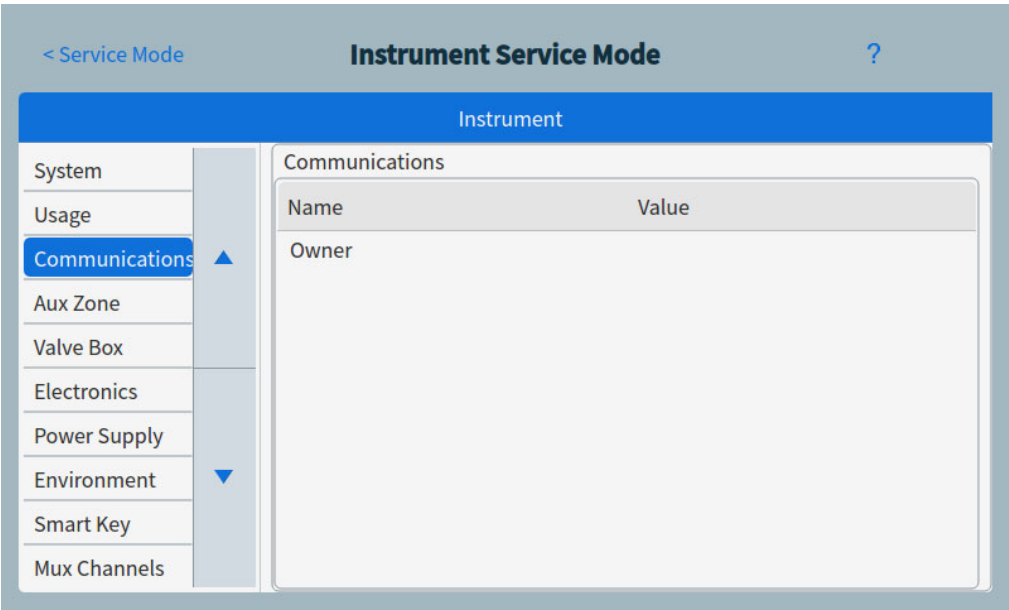

Figure 44. Instrument Service Mode page
- 1 Select the desired component type. The Service Mode page for the selected component appears. See Figure 44.